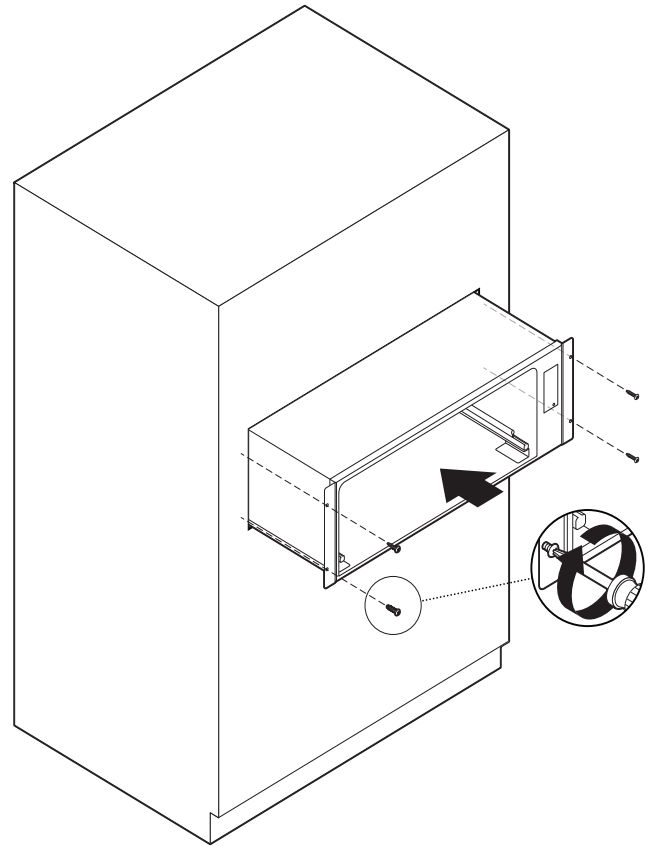

Figure 6: Secure Warming Drawer
8. Secure with four (4) stainless Phillips screws through holes in front frame (Figure 6).